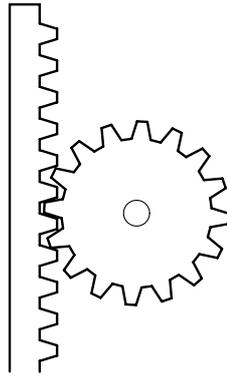

Fig. 5
- 9 The mechanism shown in Fig. 5 is commonly found in machines and works by changing type of motion into another.
'The mechanism in Fig. 5 converts motion into motion.' [2]